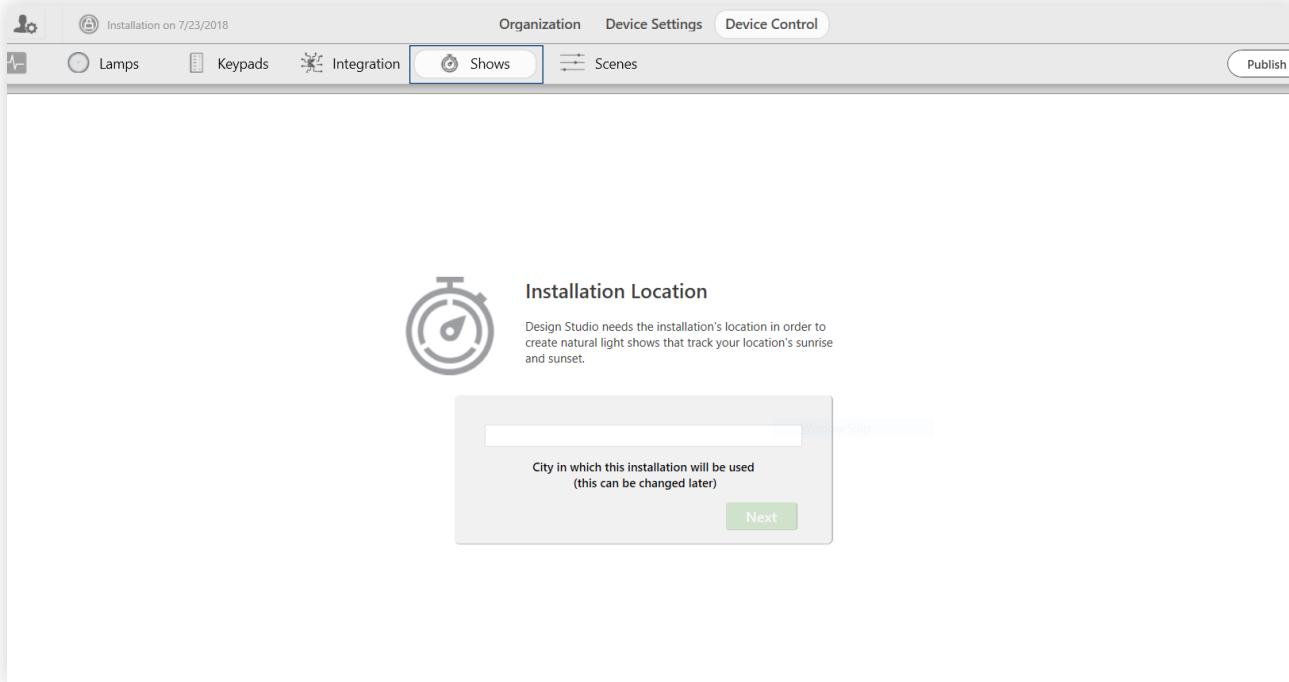

fig. 78
- 1 Go to the Shows tab in Device Control, pictured in fig. 78.